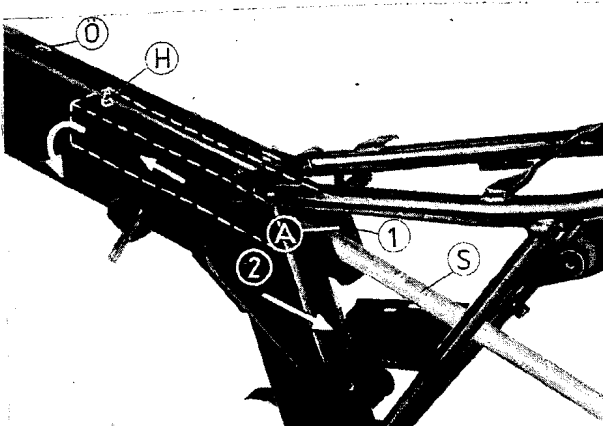

Fig. 188. Induction pipe mounting
The air is drawn in through the opening (A) of the induction pipe (1), see Fig. 188. The induction pipe serves for silencing and stilling of the air.